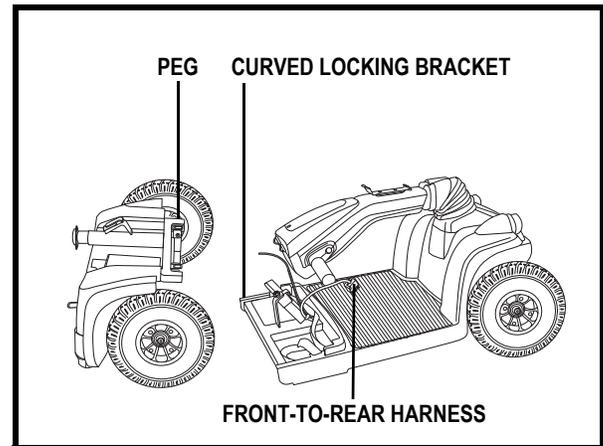

Figure 21. Frame Sections
1. Position the front and rear sections of your PMV as shown in figure 21.
2. Align the lower slots of the front section with the corresponding pegs on the front of the rear section. See figure 21.
WARNING! Position the front-to-rear harness so it will not become pinched between the frame halves when pivoting the rear section forward. See figure 21.